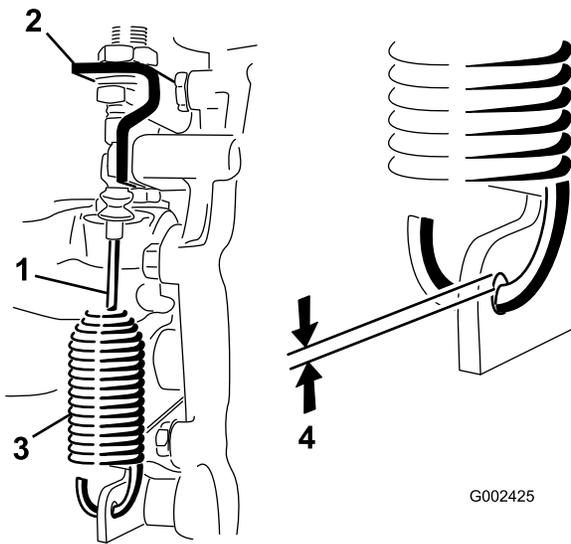

Figure 50
2. Loosen the jam nuts securing the differential-lock cable to the bracket on the transaxle (Figure 50).